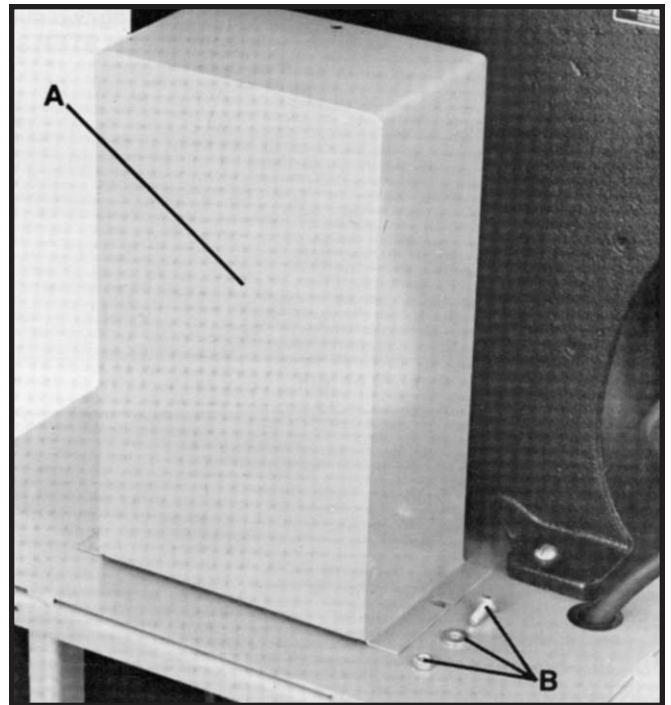

Fig. 6
Assemble the belt and pulley guard (A) to the top of the stand, as shown in Fig. 6, using the two 1/4-20 x 1/2 hex head screws, washers and nuts (B).